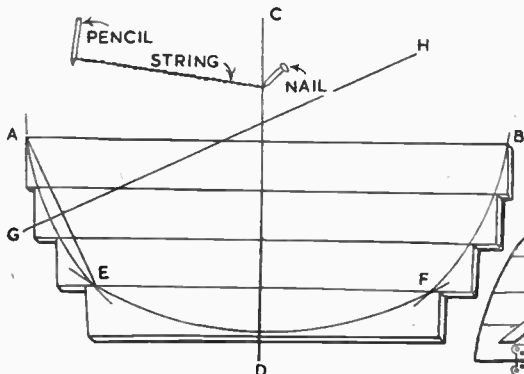

Fig. 2—Marking the boards with string and pencil
Place out the planks on floor or large table, as seen in Fig. 2. The side (AB) should be the length of the table edge.